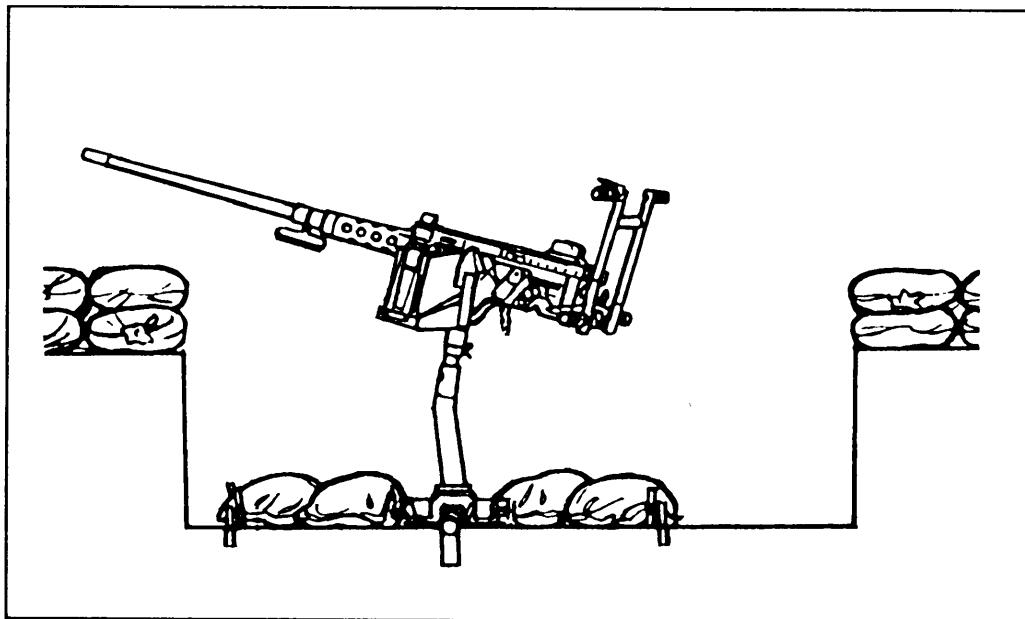

Figure 1-7. Antiaircraft mount, M63.
- (1) *To set the tripod trail legs –*
(2) To set the front leg of the tripod-
- (3) To secure the tripod legs, stamp the metal shoe on each tripod leg into the ground. Sandbag each leg to stabilize the M2 for firing.
- b. **Antiaircraft Mount, M63.** The antiaircraft mount (Figure 1-7) is a four-legged, low silhouette, portable mount used for antiaircraft fire. Table 1-3 lists the general data pertaining to the M63.